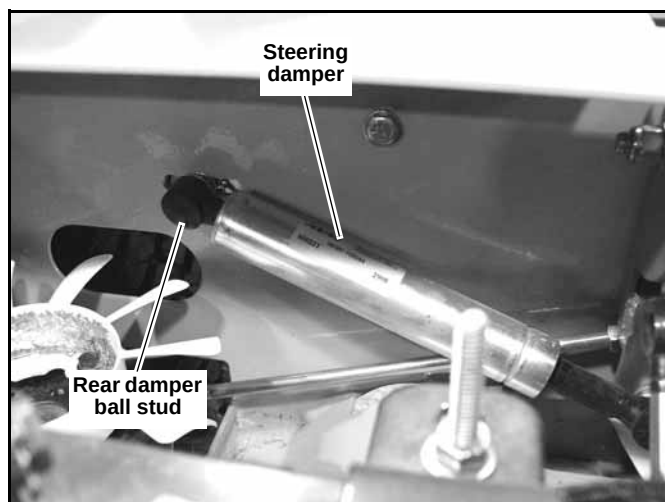

Figure 4-6
3. Loosen the steering damper's rear ball stud. Figure 4-6